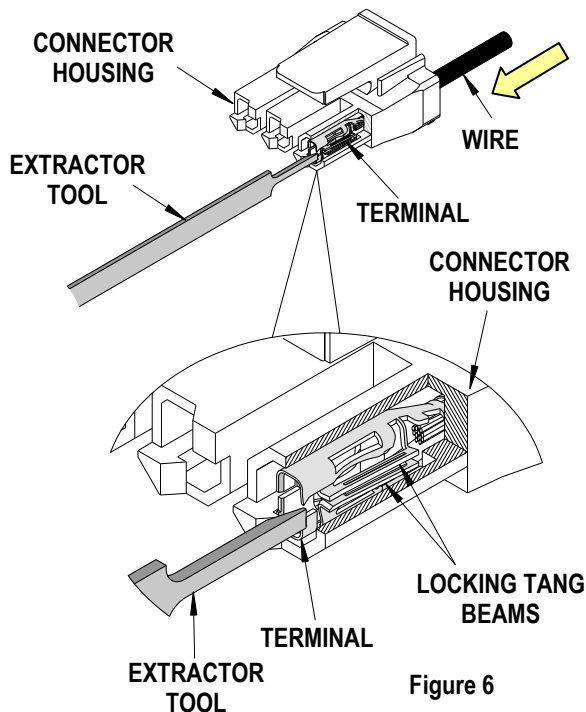

Figure 6
2. Insert the Extractor Tool into the slot on the bottom of the connector housing as shown in Figure 6. Make sure the straight edge of the extractor tool is up against the housing lock.
1. Push the terminal forward in the arrow direction before using the Extractor Tool as shown in Figure 6. Insert the Extractor Tool into the slot on the side of the connector housing.